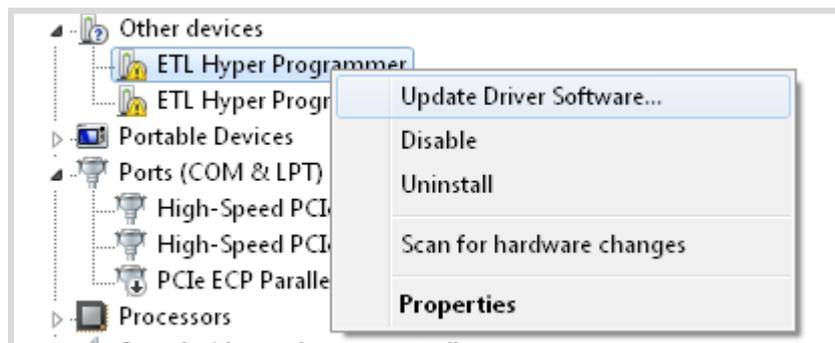

Figure 5. The "Update Driver Software" menu item selection
- Right Click on the first "ETL Hyper Programmer" device and then select "Update Driver Software" menu item (Figure 5).
- Select the "Browse my computer for driver software" (Figure 5).